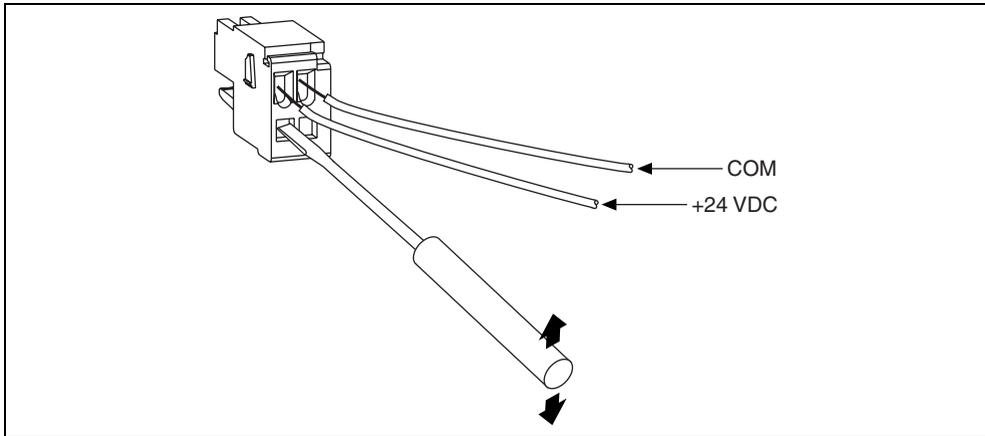

Figure 3. Power Two-Position Header Wiring Diagram
2. Wire the voltage output of the 24 VDC +20%/-15% (IEC 1311) power supply to the main voltage input on the two-position connector as shown in Figure 3. Insert a small flathead screwdriver into the square opening. Using the screwdriver as a lever to open the clamp, insert the wire into the spring terminal opening. Remove the screwdriver to securely clamp the wire.
3. Wire the common signal (ground) output of the power supply to the COM signal input on the two-position connector, shown in Figure 3, using the same technique described in step 2.